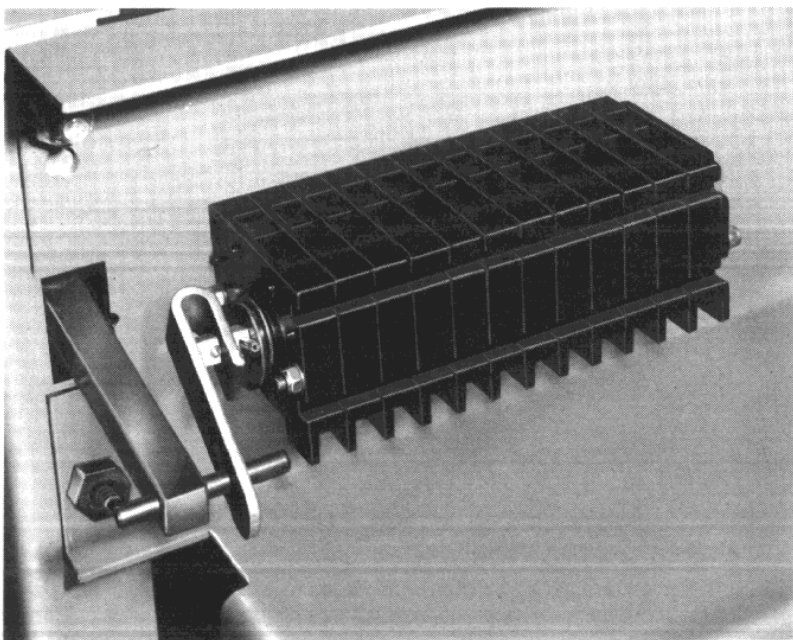

Figure 1-7.
1.2.4 Truck Operated Cell Switch (Figure 1-7)